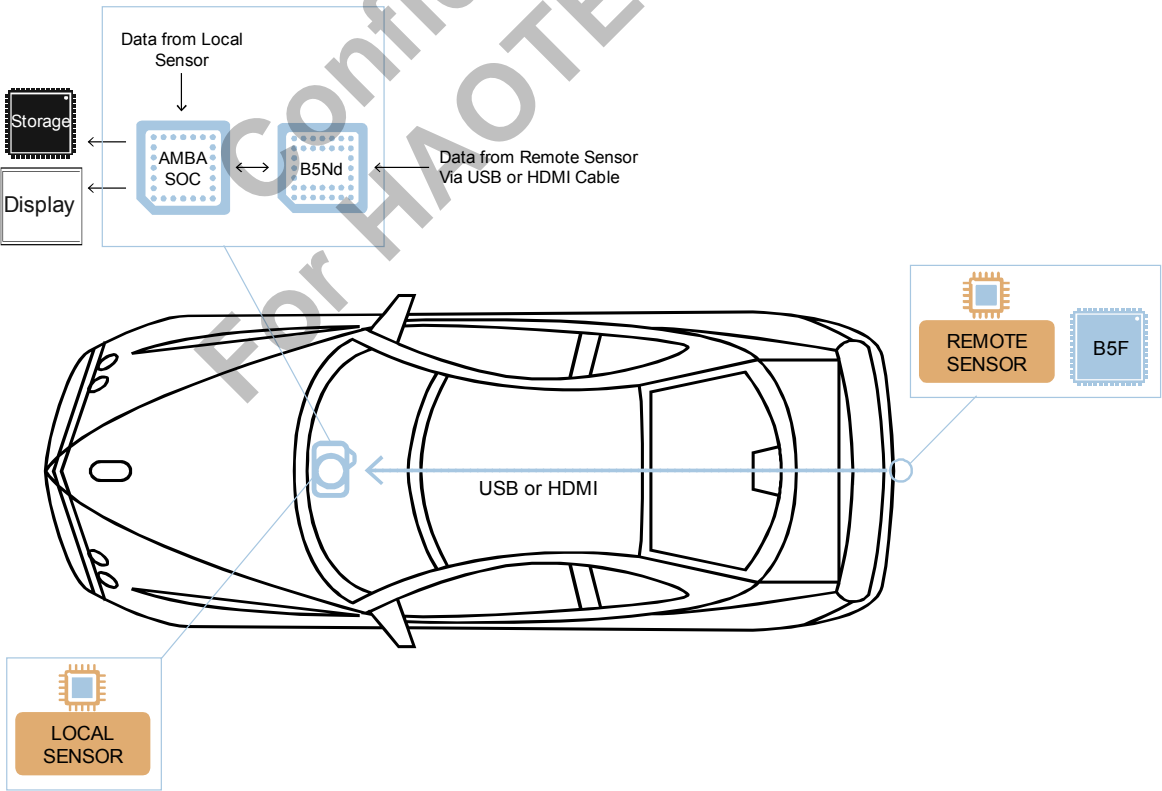

Figure 1-4. A12A35 Automotive Camera Application: Local / Remote Sensor Configuration (B5-Equipped).
2. Inputs from both a local sensor and a remote sensor are sent to the A12A35 SoC (Figure 1-4)